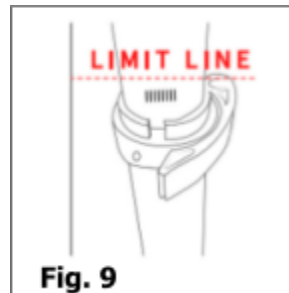

Fig. 9
1. Open the seat post quick-release lever (Fig. 9). Apply a small amount of grease to the seat post. Insert it into the seat tube until the minimum insertion line is no longer visible.